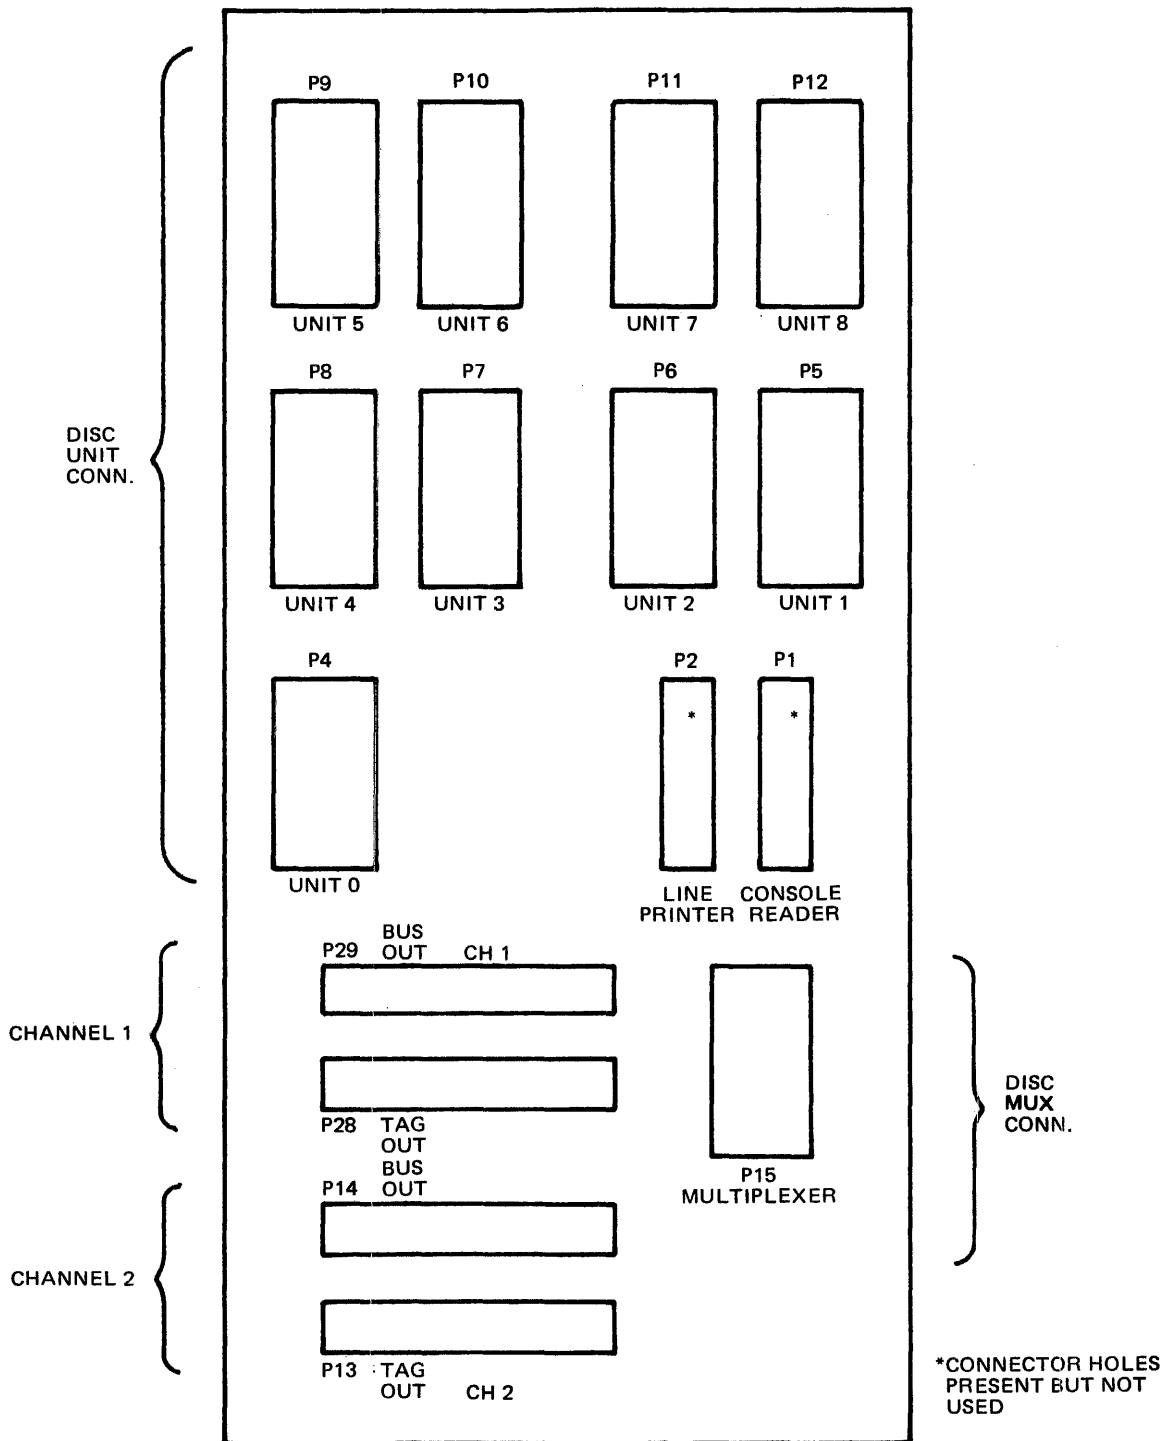

Figure 2-7. I/O Panel
3. Remove panels that cover the I/O signal and power connectors from under operator's table. These connectors are shown in Figures 2-7 through 2-11.